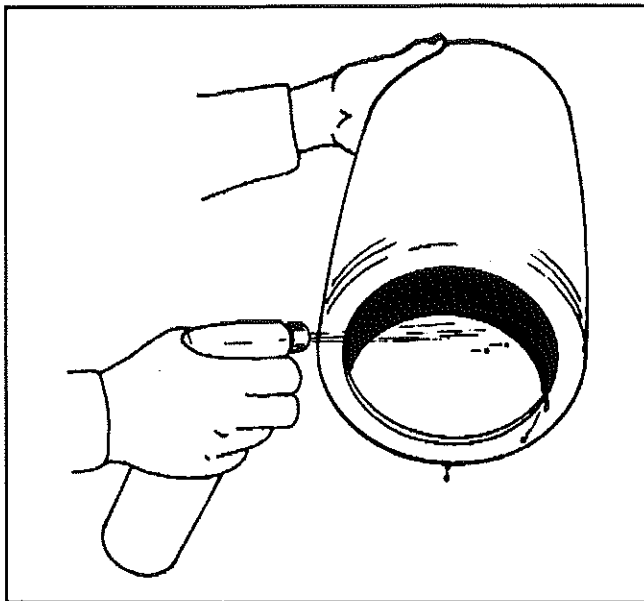

FIG. 12
2. Apply silicone lubricant at top of the skirt, then press the bellows to elongate the opening and insert the upper retainer into the bellows. Position the upper retainer so that the bead will seat when air is applied (see fig. 12).